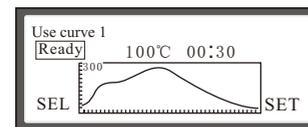

Fig. 19
(2) After selecting “Lead Soldering 1”, press “SET” button to conduct setting as shown in Fig. 19. Press “SET” button to switch “Heating Zone”, “TEMPERATURE” and “TIME”. Press “PAGE UP” button and “PAGE DOWN” button to conduct the setting of “TEMPERATURE” and “TIME”. Press “RUN” button to exit as shown in Fig. 18. Press “RUN” button again to select as shown in Fig. 20. After saving the preset is successful, it will automatically switch to main interface of “PRESET”, “PRODUCTION” and “CONSTANT TEMPERATURE”, as shown in Fig. 17. After entering “PRODUCTION” interface, the time and temperature values are preset values.